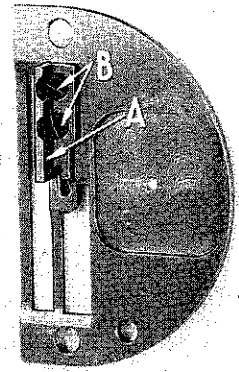

Fig. 17
The throat plate needle guard (A, Fig. 17) is used to guard the left side of the eye needle and to prevent it from being deflected away from the point of the hook. Only a limited amount of adjustment is required and is obtained by loosening the two screws (B) and moving the guard.